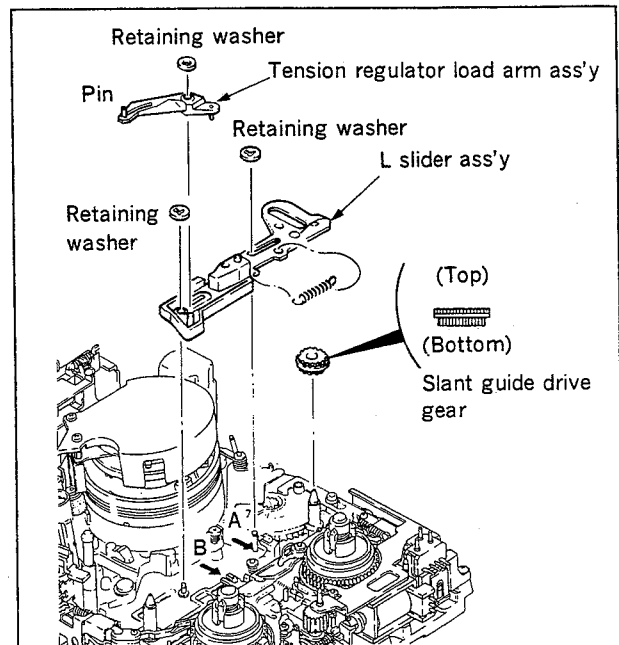

Fig. 1
Remove slant guide drive gear. (Refer to Fig.1.)
- 2) While pushing protrusion of RL arm in the direction of arrow A as shown in Fig.1, raise the right side of L slider ass'y.
Remove retaining washer, then remove tension regulator load arm ass'y from L slider ass'y. (Refer to Fig.1.)
- 2) Smear grease in the U groove of drive changer ass'y. (Fig.1)